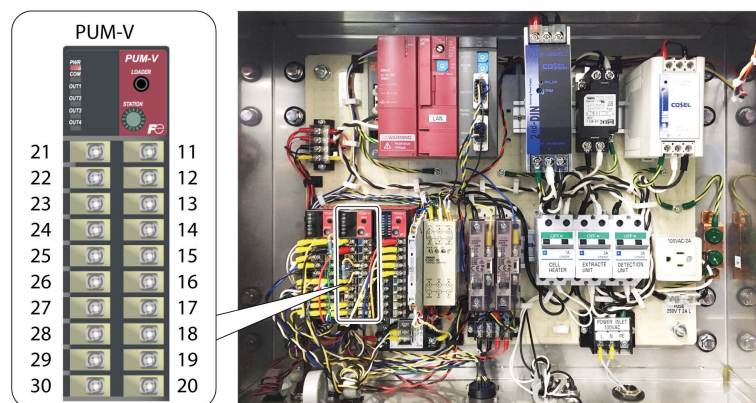

Fig. 4-23 Analog I/O module (PUM-V)
- Wrap the analog output cable around the ferrite core four times.(See Fig. 4-23)